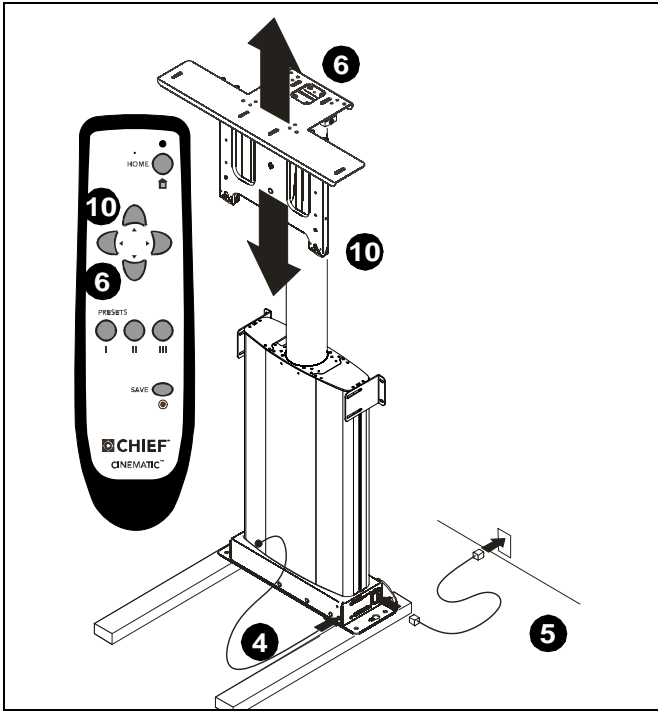

Figure 3
4. Install IR receiver. (See figure 3)
6. Using the remote control, raise lift until locknuts on back side of faceplate can be accessed. (See figure 3)
10. Using the remote control, lower the lift until it stops. (See figure 3)
11. Raise lift following instructions in step 6. (See figure 3)